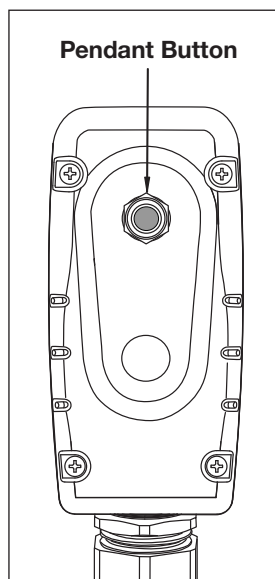

Figure 5, Pendant
5.2 Pendant and Motor Jog Buttons (See Figures 5 and 6)
6. Press and hold the pendant button. See Figure 5. The pump motor will start and pressure will begin building immediately.
5. Press and hold the pendant button. See Figure 5. The pump motor will start and pressure will begin building immediately.